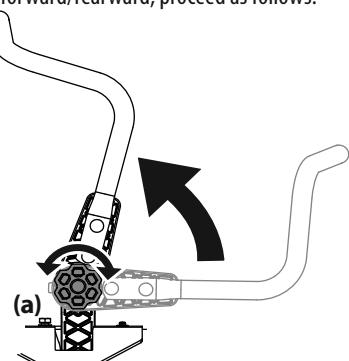

Figure 8
(a). See Figure 8.
3. Rotate the knob clockwise to secure the lapbar drive control lever into position. See Figure 8.